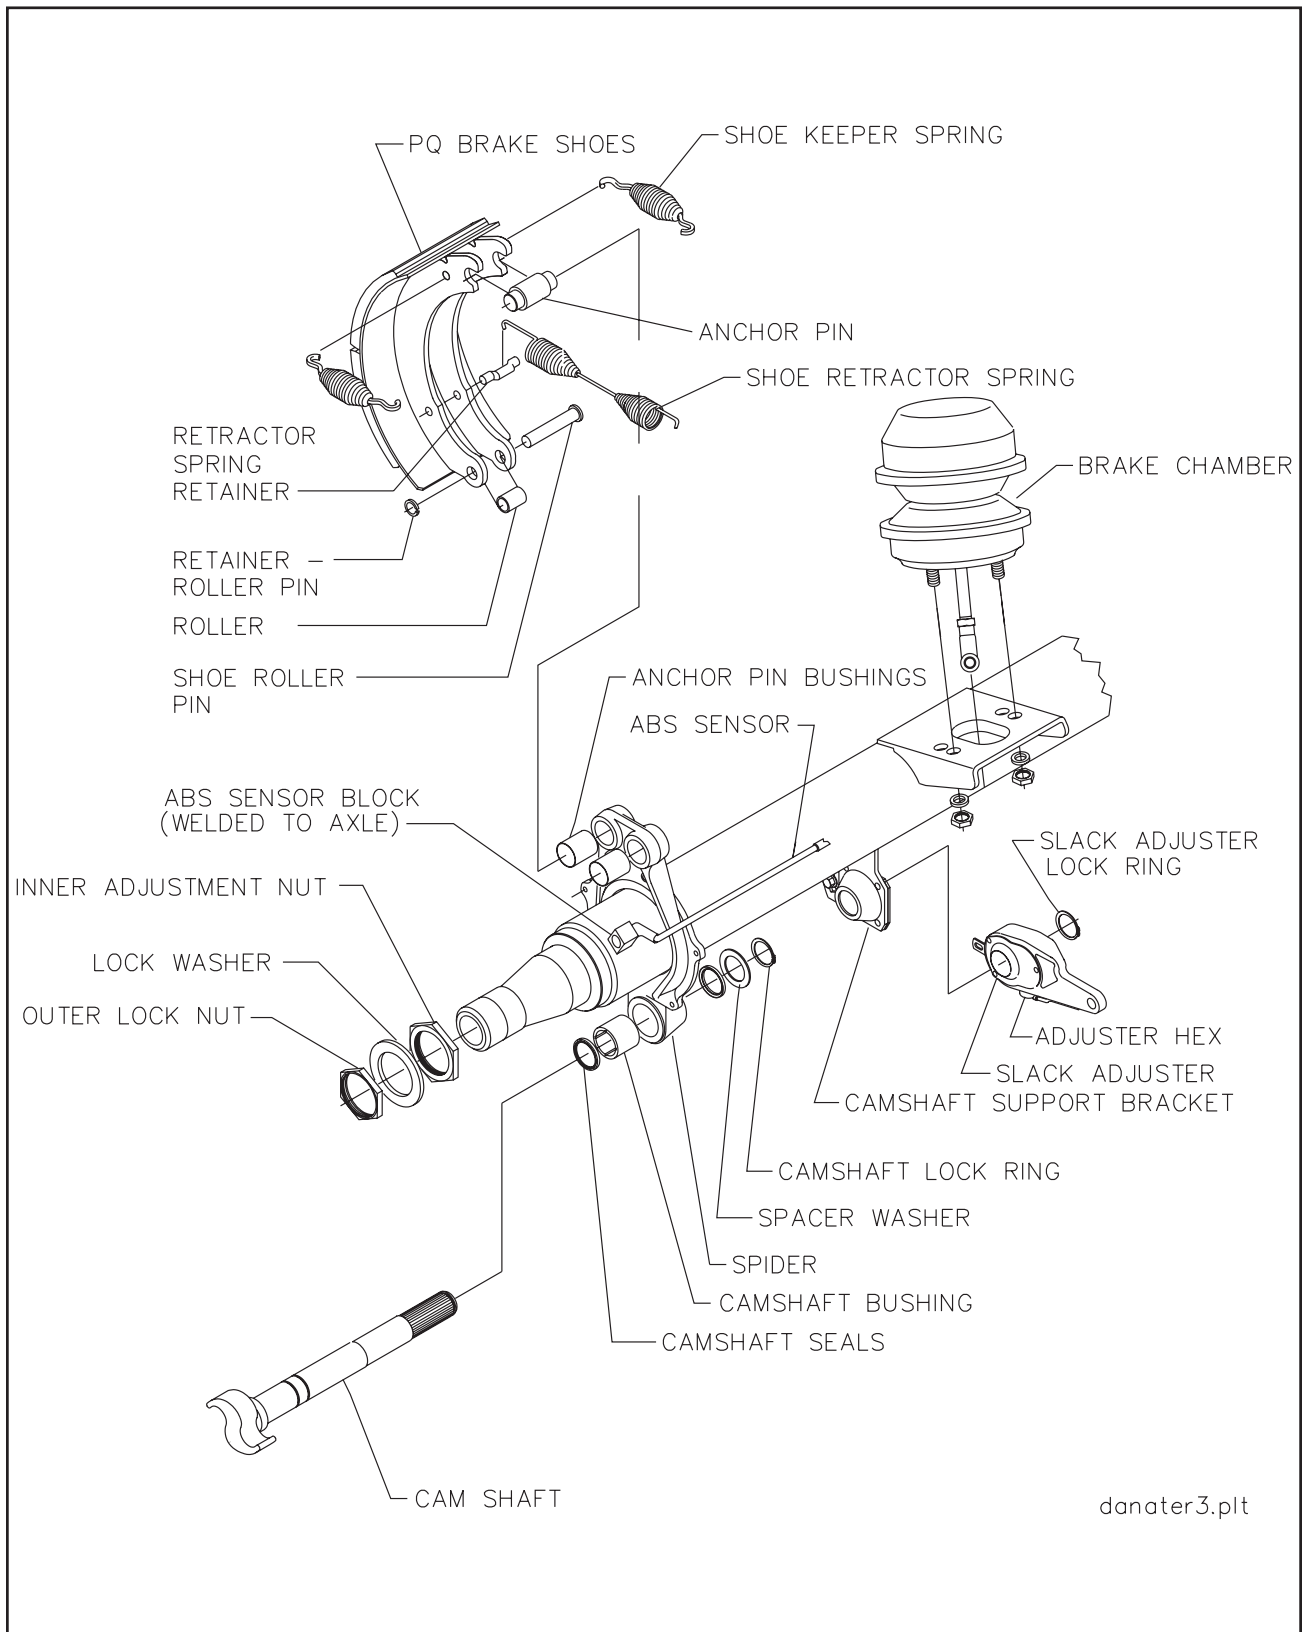

Figure 4-15 Axle and Brake Assembly
b. Disassembly for 12-1/4" X 7-1/2" Brakes (See **Figure 4-15**)
3. Remove drum assembly (See **Figure 4-15**).
c. Reassembly for 12-1/4" X 7-1/2" Brakes (See **Figure 4-15**)
d. Disassembly for 16-1/2" x 7" Brakes (See Figure 4-15).
e. Reassembly for 16-1/2 x 7" Brakes (See Figure 4-15).